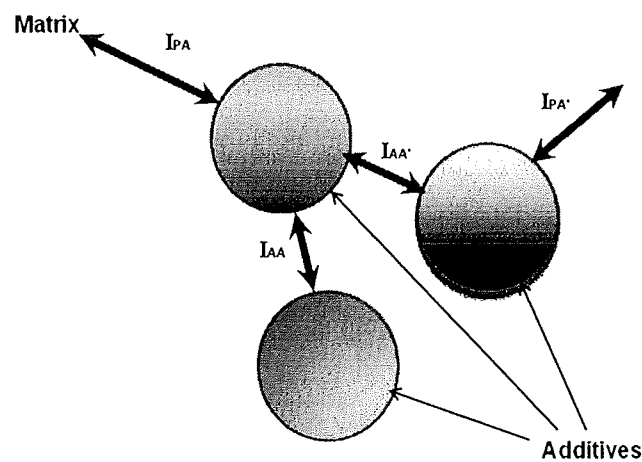

Figure 1 - Schematic diagram of interaction between matrix and filler.
1. [a] (i) Figure 1 show the schematic diagram of interaction between matrix and filler. Explain the figure shown.